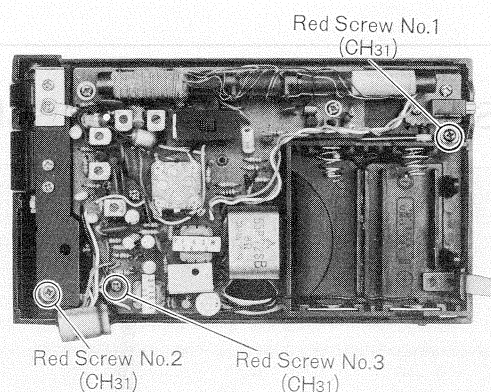

Fig. 2
3. Remove three (3) red chassis screws, nos. 1~3, as illustrated in fig. 2.